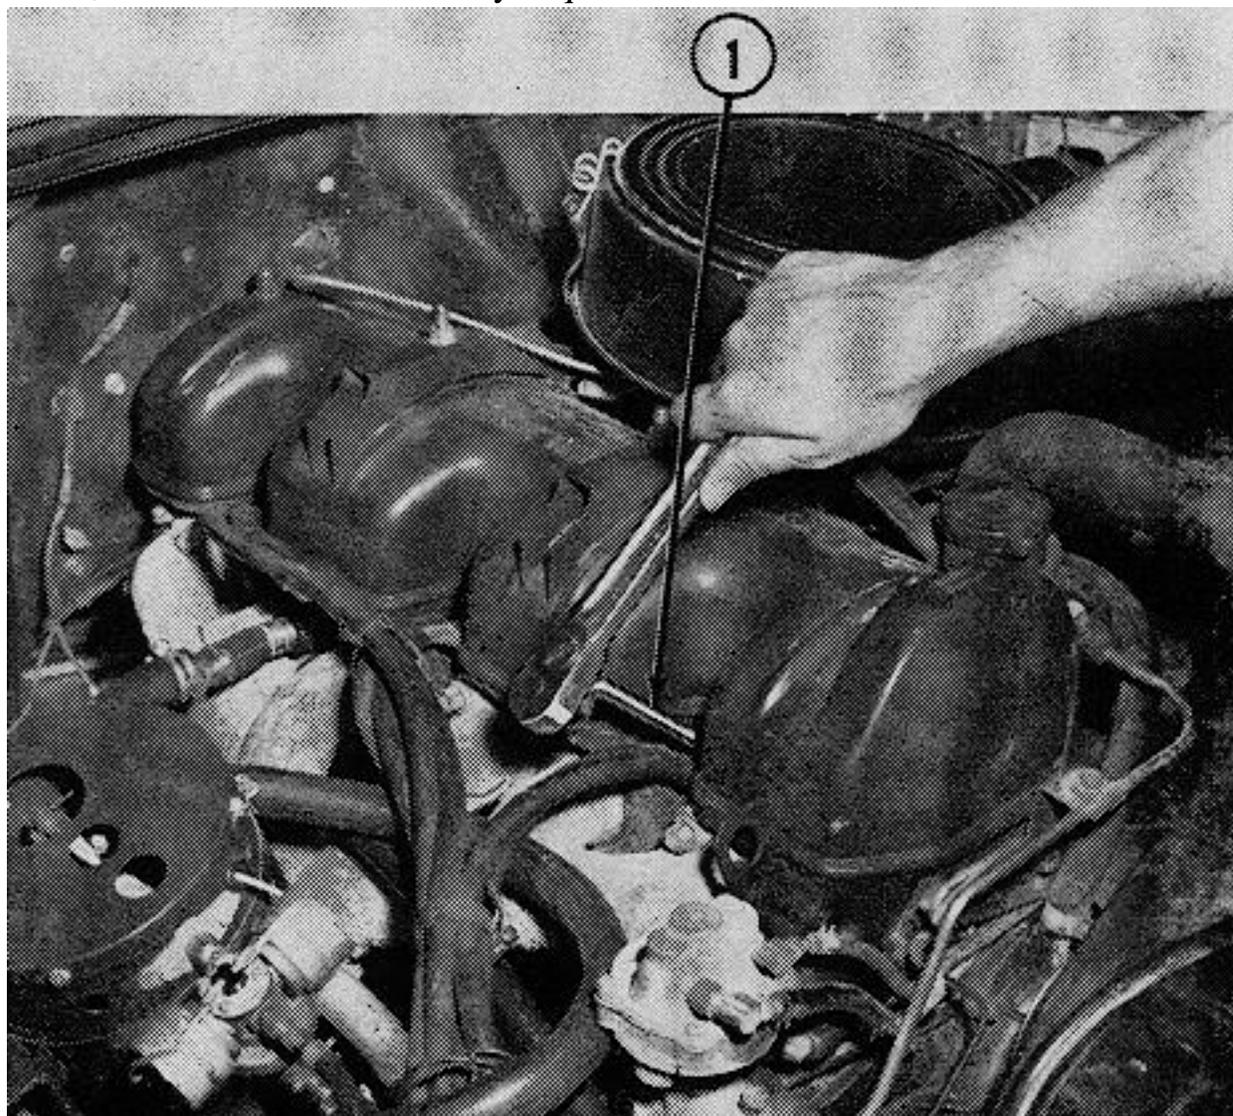

FIG. C-1—SPARK PLUG CABLE REMOVAL
a. Use a spark plug cable removal and installation wrench C-2613 to remove the shielded spark plug leads from the spark plugs, as shown in Fig. C-1.